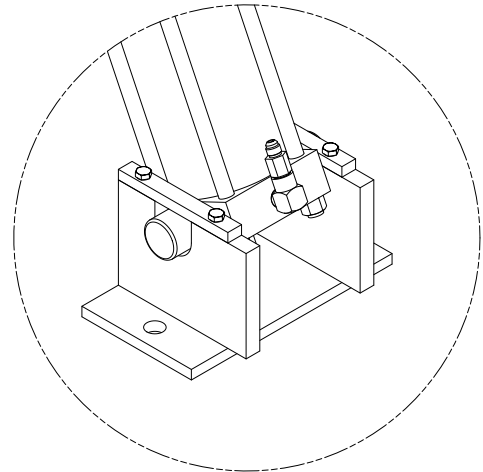

Figure 9
4. Install hoist cylinder trunnions into mounting weldment with tie-bars as shown in Figure 9.